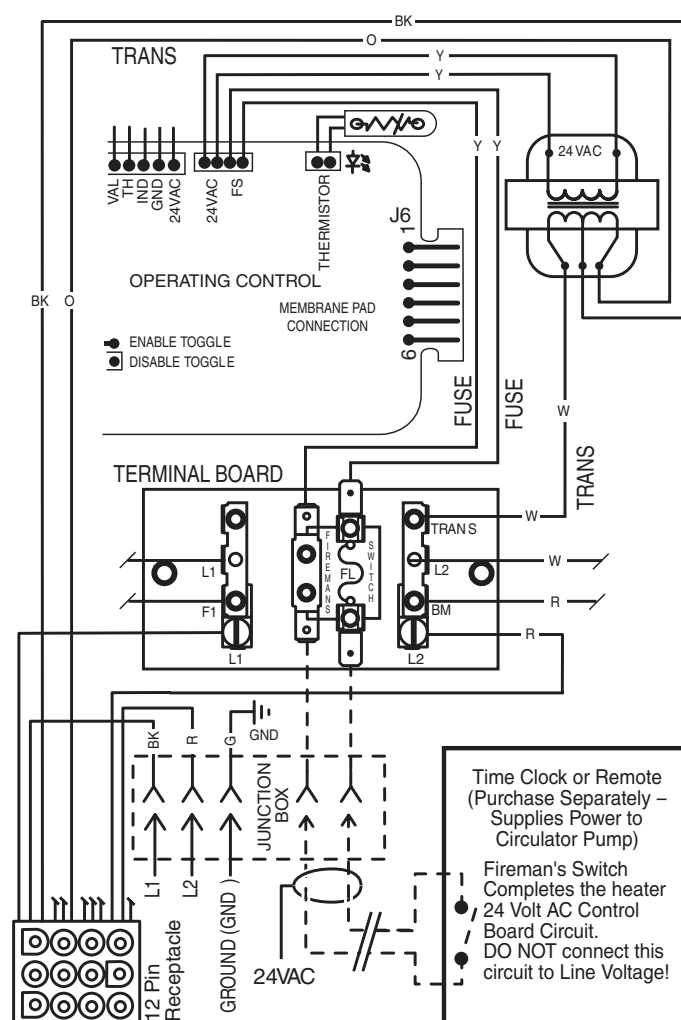

Figure 25.
- Connect wires between the Fireman's Switch terminals on the heater and the relay. Connect wires from the controller or timer to the Fireman's Switch. Controller, timer or relay should be sized to handle 24VAC at 0.5 Amp (because it will be completing the 24VAC control board circuit on the heater as shown in Figure 25). DO NOT apply line voltage to the Fireman's Switch terminals. Use 18 gauge wire with a minimum 3/64" (1.2mm) thick insulation rated for a temperature rise of at least 105°C.